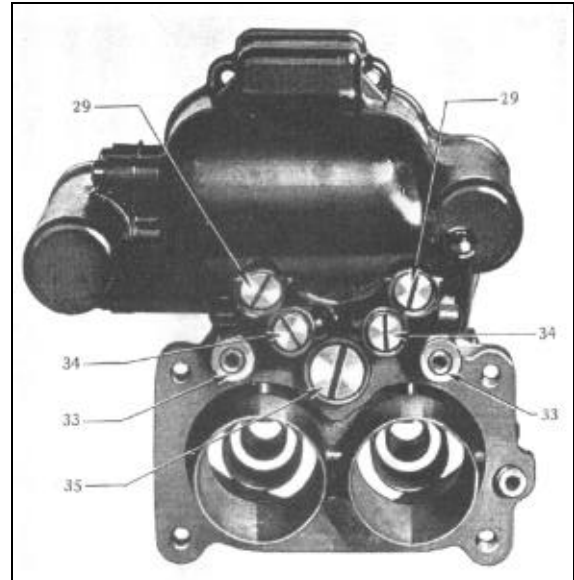
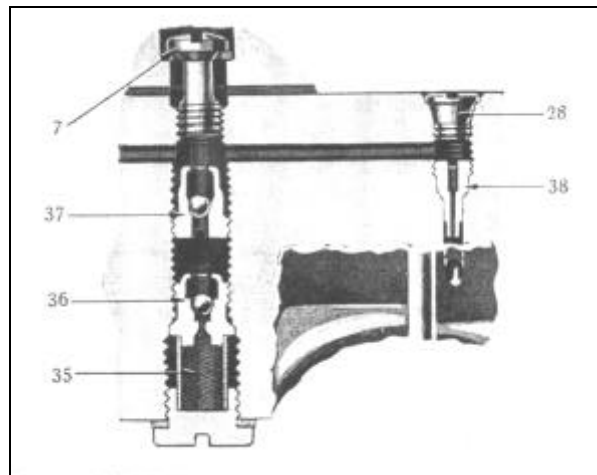

Figure 427
Figure 428
(103) Remove both pump jet passage plugs (28) (Figure 424) and nozzles (38) (Figure 428).
(108) Remove body flange gasket and both idle passage gaskets (33) (Figure 427).
(109) Remove both low speed jets (34) and gasket assemblies (Figure 427).
(110) Remove check valve passage plug (Figure 427) gasket and strainer assembly (35) (Figure 428).
(111) Remove intake ball check plug assembly (36) and discharge ball check assembly (37) (Figure 428).
(127) Install new low speed jet (34) and gasket assemblies (Figure 427). Be sure metering holes in low speed jets are open. Install tightly, so low speed jets seat at both ends.
(128) Install discharge ball check assembly (37) first and then intake ball check assembly (36) (Figure 428). Be sure checks seal. They can be tested by blowing the ball against the seat and should work freely. If they leak or stick, replace them. Install tight so they seat in casting. Install strainer in plug assembly (35, Figure 428), and plug (35) in casting (Figure 427). If strainer is clogged or damaged, replace it.
(129) Install new body flange gaskets and new idle passage gaskets (33) on main body casting (Figure 427).